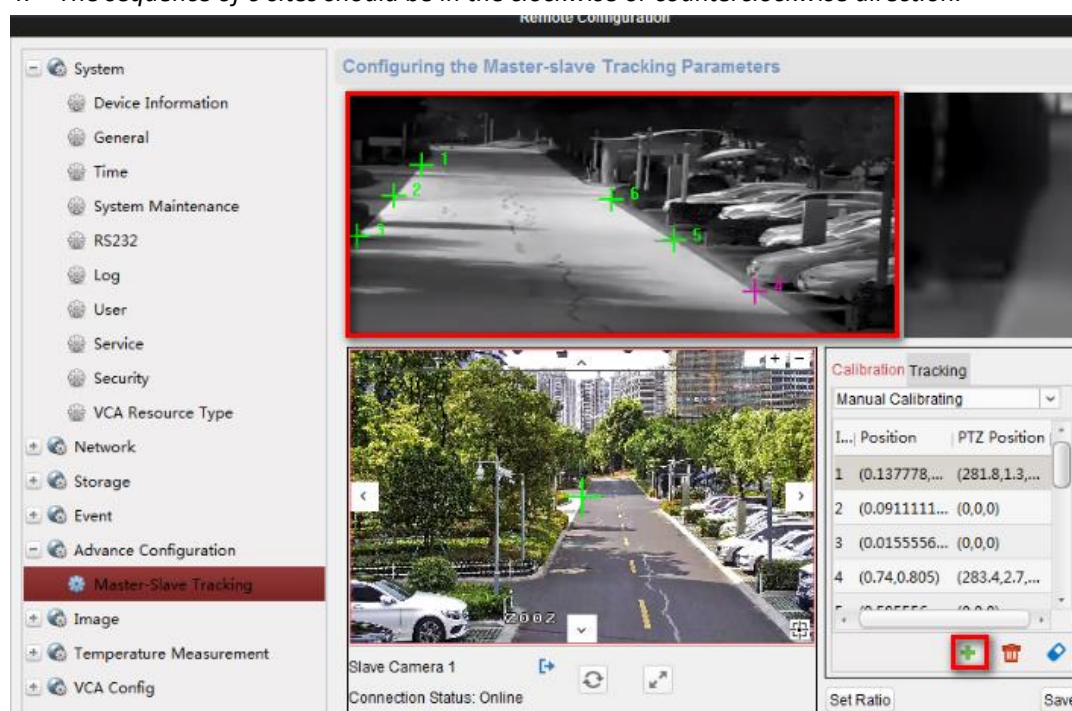

Figure 3
5. We need calibration between thermal bullet camera and PTZ camera for Smart Linkage. Click to select the calibration tab page. Select **Manual Calibrating** from the calibration list. Select No.1 from the list and click **+**, a green cross appears in the center of the live view page. As the figure 3 shown, we recommend to set 6 sites which evenly distributed in the thermal bullet camera's live view.